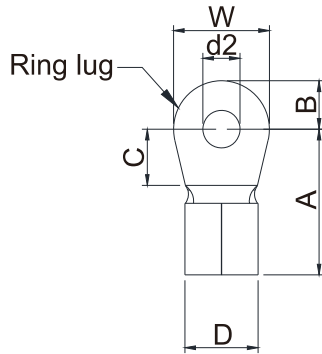
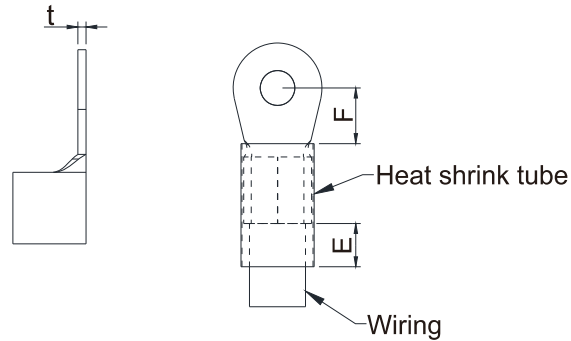

Figure 5-5
Figure 5-6
- Use the specified ring lug for main circuit terminal wiring. See figure 5-5 and figure 5-6 for ring lug specifications. For other types of wiring use the wires that comply with the local regulations.
- After crimping the wire to the ring lug (must be UL approved), UL and CSA approved recognized component (YDPU2), install heat shrink tube rated at a minimum of 600 V_{AC} insulation over the live part. Refer to figure 5-6 below.